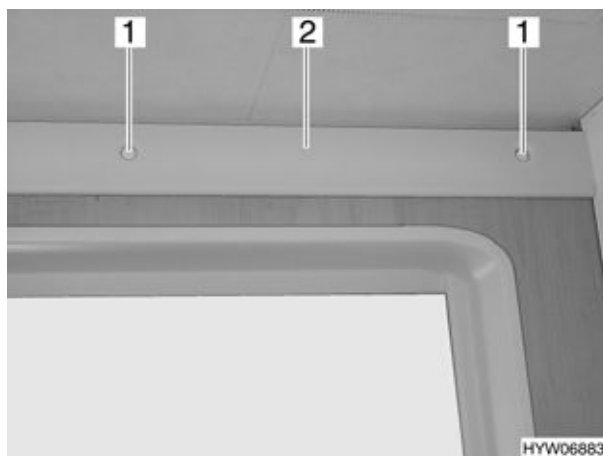

Fig. 188 Toilet light (variant 2)
- Remove caps (Fig. 188,1).
- Remove lamp glass (Fig. 188,2).